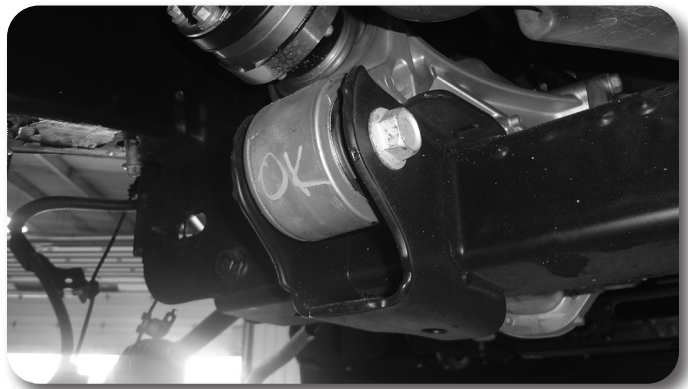

Figure 14
21. Remove the bolt attaching the differential to the rear cross member Fig. 14. Save hardware for later installation.